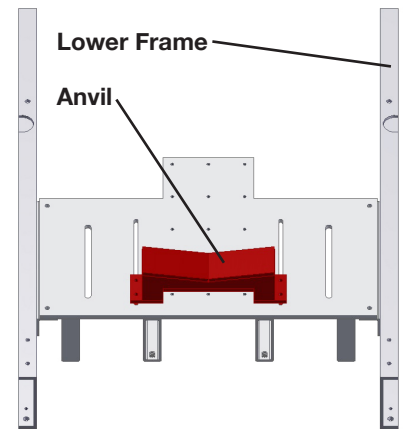

Figure 3
12. Place the Anvil onto the table so that the 11/16" holes are aligned with the inner set of slots on the table. Set the Anvil so that it will support the tube sheet at the desired cut off distance for the bundle cut (Figure 3). Using the 130GN Hex Bolts, 132H Washers included in the box labeled "Anvil Hardware", secure the Anvil by bolting through the slots in the Tube Sheet Support Table and into the Anvil Nuts. This position can be adjusted at any time before or after a bundle cut.